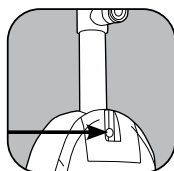

Fig. 1
2. Line up the hole on the handle with the hole on top of the vacuum and insert the screw. Make sure the screw is tightened securely (Fig. 1).